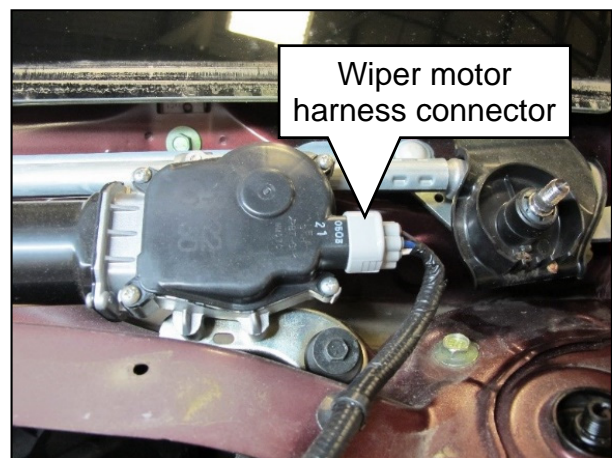

Figure 25
15. Reconnect the wiper motor harness connector (Figure 25).